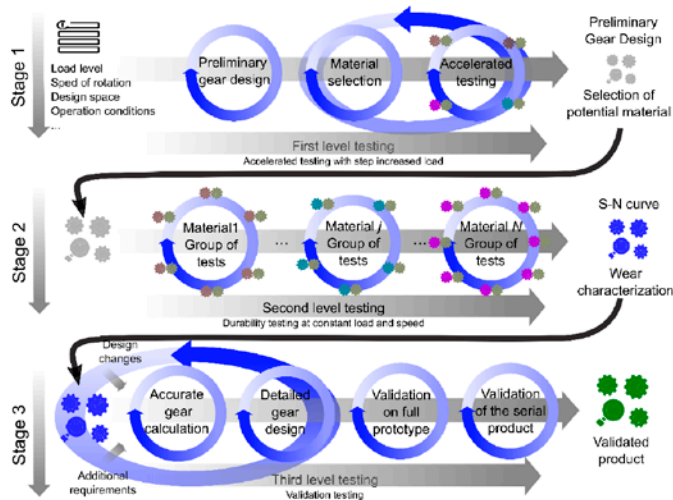

Figure 7—The accelerated gear testing methodology.
2. For initial material screening, accelerated (step) tests can be employed (Figure 7). These enable the evaluation of a large set of different materials (or material pairs) in a rather quick and cost-efficient way. Such tests need to be conducted in precisely controlled operating conditions. Usually, the torque is increased in steps until the final gear failure, and the rotational speed is kept constant. When dealing with plastics, the operating temperature is a highly important parameter. In step tests, there are two possibilities, depending on what the research focus is.